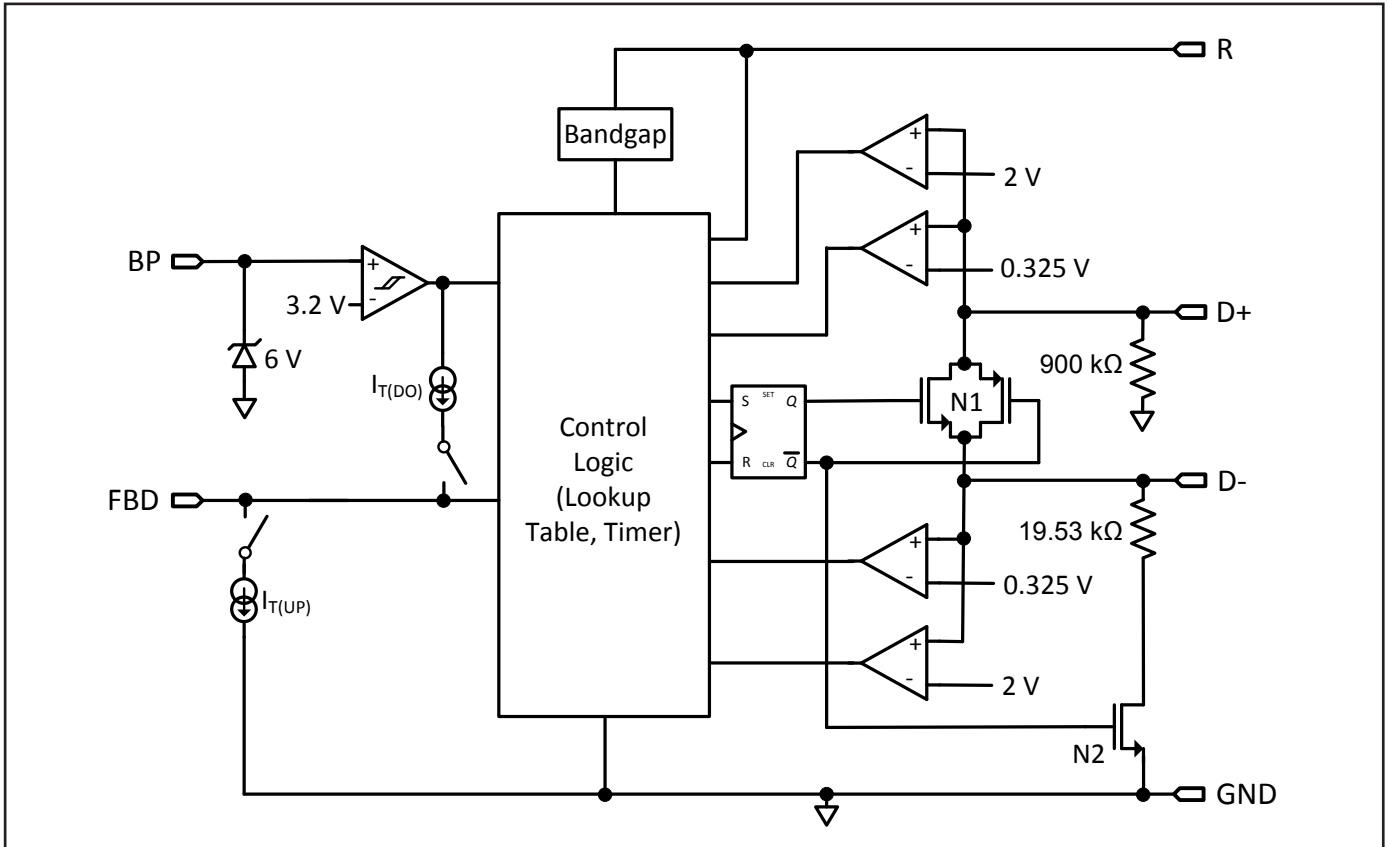

Figure 3. Functional Block Diagram.
At power-up SC0163D turns on switch N1 (see Figure 3) short-circuiting USB data lines D+ and D- for the initial handshake between
AC-DC adapter (DCP) and powered device (PD) as described in the USB Battery Charging specification revision 1.2. After the USB BC 1.2 handshake is completed, SC0163D will turn off switch N1 if it detects a Quick Charge 3.0 or Quick Charge 2.0 compliant PD. At this point the Quick Charge 2.0 handshake followed by the Quick Charge 3.0 handshake can take place as described in the Quick Charge 2.0 and Quick Charge 3.0 protocol specification. Upon completion of the Quick Charge 2.0 and Quick Charge 3.0 handshakes, SC0163D will turn on switch N2 (see Figure 3) connecting a 19.53 k Ω pull-down resistor to USB data line D-.
When the USB cable is unplugged the voltage level at D+ is pulled down by SC0163D's internal resistor (see Figure 3). Once it drops below 0.325 V SC0163D will enter default mode (switch N1 is on, switch N2 is off) and sets the default output voltage of 5 V.